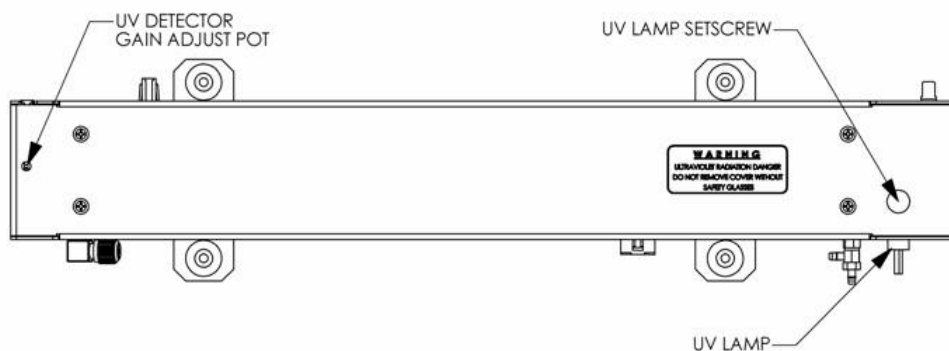

Figure 7-6: Photometer – Location of UV Detector Gain Adjustment & UV Lamp Set Screw
4. Locate the UV DETECTOR GAIN ADJUST POT on the photometer assembly (see Figure 7-6).
4. Locate the UV lamp at the rear of the optical bench assembly (see Figure 7-6)
9. Turn the UV detector gain adjustment pot (see Figure 7-6) clockwise to its minimum value. The pot should click softly when the limit is reached.